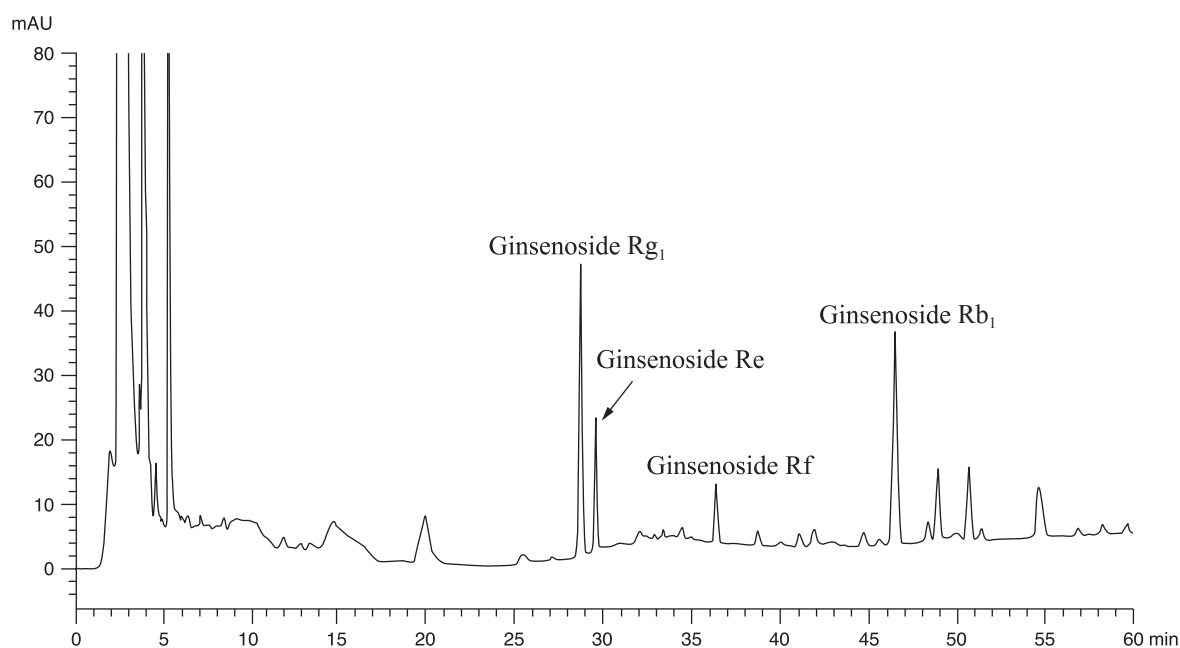

Figure 7 A reference assay chromatogram of Ginseng Radix et Rhizoma Rubra extract
The *R* value between ginsenoside Rb₁ peak and the closest peak; the *R* value between ginsenoside Re peak and the closest peak; the *R* value between ginsenoside Rf peak and the closest peak; and the *R* value between ginsenoside Rg₁ peak and the closest peak in the chromatogram of the test solution should not be less than 1.5 (Fig. 7).
Inject 20 μ L of the test solution into the HPLC system and record the chromatogram. Identify ginsenoside Rb₁, ginsenoside Re, ginsenoside Rf and ginsenoside Rg₁ peaks (Fig. 7) in the chromatogram of the test solution by comparing their retention times with those in the chromatogram of the mixed ginsenoside Rb₁, ginsenoside Re, ginsenoside Rf and ginsenoside Rg₁ Std-AS. The retention times of ginsenoside Rb₁, ginsenoside Re, ginsenoside Rf and ginsenoside Rg₁ peaks in the chromatograms of the test solution and the Std-AS should not differ by more than 5.0%. Measure the peak areas and calculate the concentrations (in milligram per litre) of ginsenoside Rb₁, ginsenoside Re, ginsenoside Rf and ginsenoside Rg₁ in the test solution, and calculate the percentage contents of ginsenoside Rb₁, ginsenoside Re, ginsenoside Rf and ginsenoside Rg₁ in the sample by using the equations as indicated in Appendix IV (B).